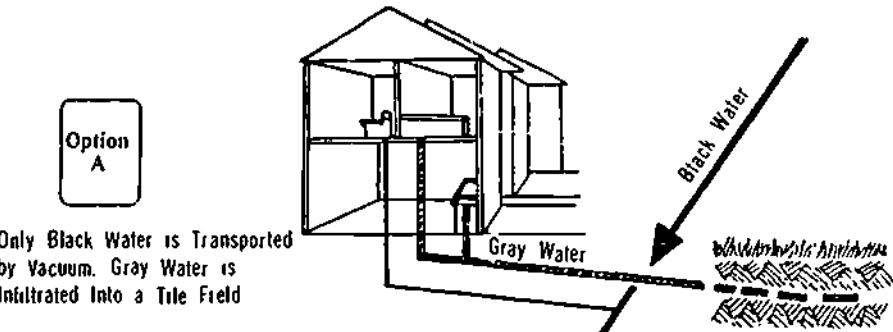

Figure 37-27. Option A — Only Black Water is Transported by Vacuum. Gray Water is Infiltrated Into a Tile Field
87. This option offers the most economical vacuum system (Figure 37-27). The separated gray water is relatively harmless, containing most phosphates and only 10 per cent of the total nitrogen but practically none of the pathogenic bacteria and viruses found in normal sewage. It can be readily and inexpensively infiltrated into a simple tile bed at each house location. With the gray water being reduced in volume by 50 per cent (and without the black-water contamination), it is easily regenerated through the soil.